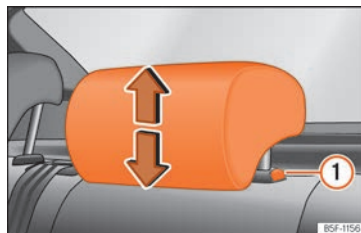

Fig. 121 Rear headrest: headrest adjustment.
button » **Fig. 121 ①** to lower them » **△** in Introduction on page 125.